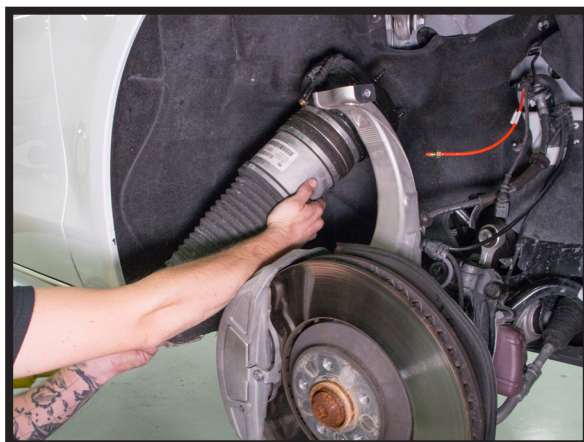

FIGURE 20
16. REMOVE FROM VEHICLE. (FIGURE 20)